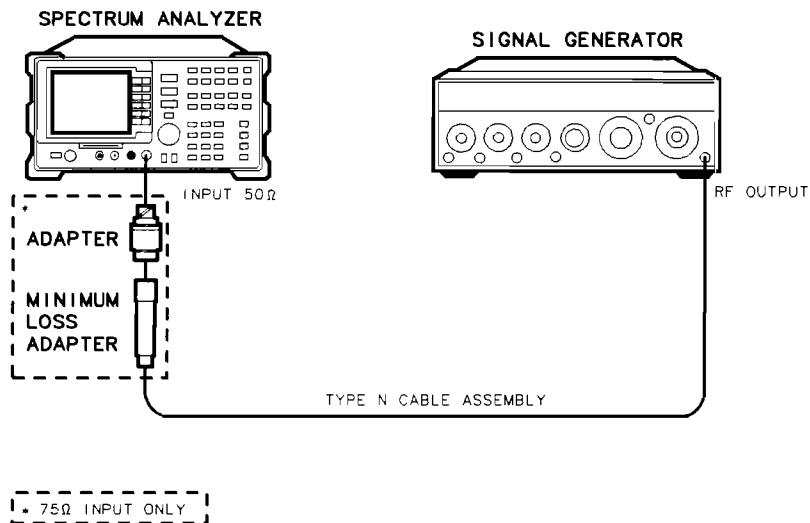

Figure 2-8. System Related Sidebands Test Setup
- Connect the equipment as shown in Figure 2-8.